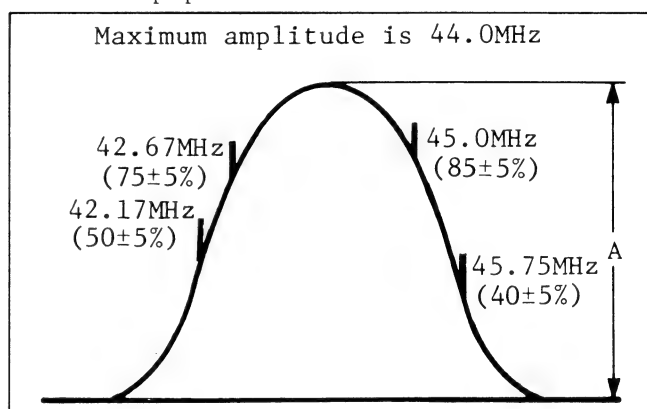

Fig. E33
12. Adjust the tuner converter coil (L13) UHF/VHF tuner unit so that the sweep output waveform is as shown in Fig. E33.